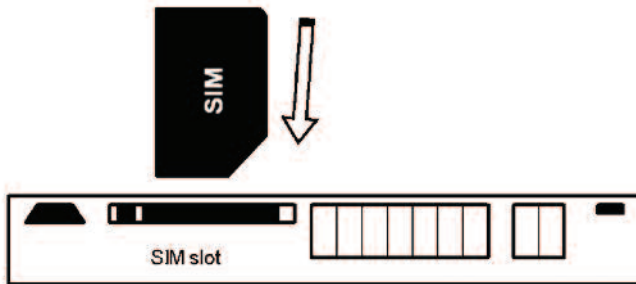

Figure 9: SIM Card.
- 8.4 Turn off Series ULTM. Turn the Series ULTM top cap counter-clockwise and expose the electrical connections board. Insert the SIM card into the proper slot as described in the following figure. The SIM may be pulled out by pressing it downward again. Insert as shown in Figure 9 below.